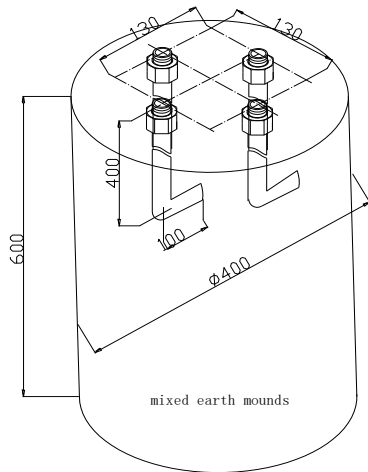

Figure1:manufacture of mixed earth mound
Figure 1 the fabrication of anchor
5. Please refer to the national standard, or the European standard, or American standard or figure 1 in this manual to arrange grounding device.